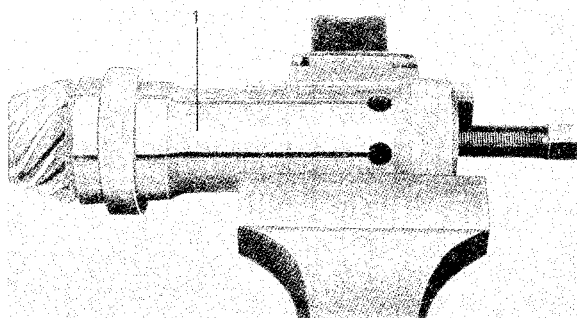
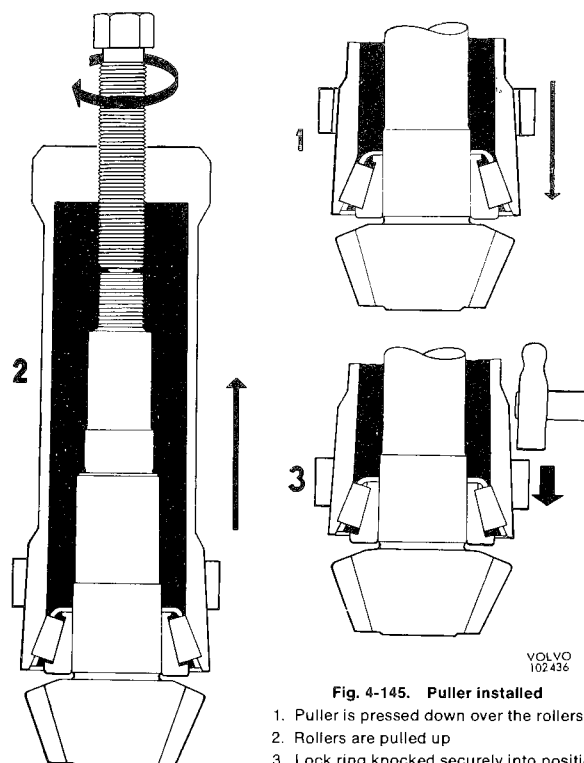

Fig. 4-144. Rear pinion bearing removal
Fig. 4-145. Puller installed
11. If necessary, pull off the rear bearing from the pinion with puller 2844, see Fig. 4-144. The puller is fitted in the following way (see Fig. 4-145). Move the puller down over the rollers and press down the lock ring. Then pull up the puller with the bolt until the rollers lie flush with the edge of the inner race and the edge on the puller. Tap out the lock ring with a hammer.